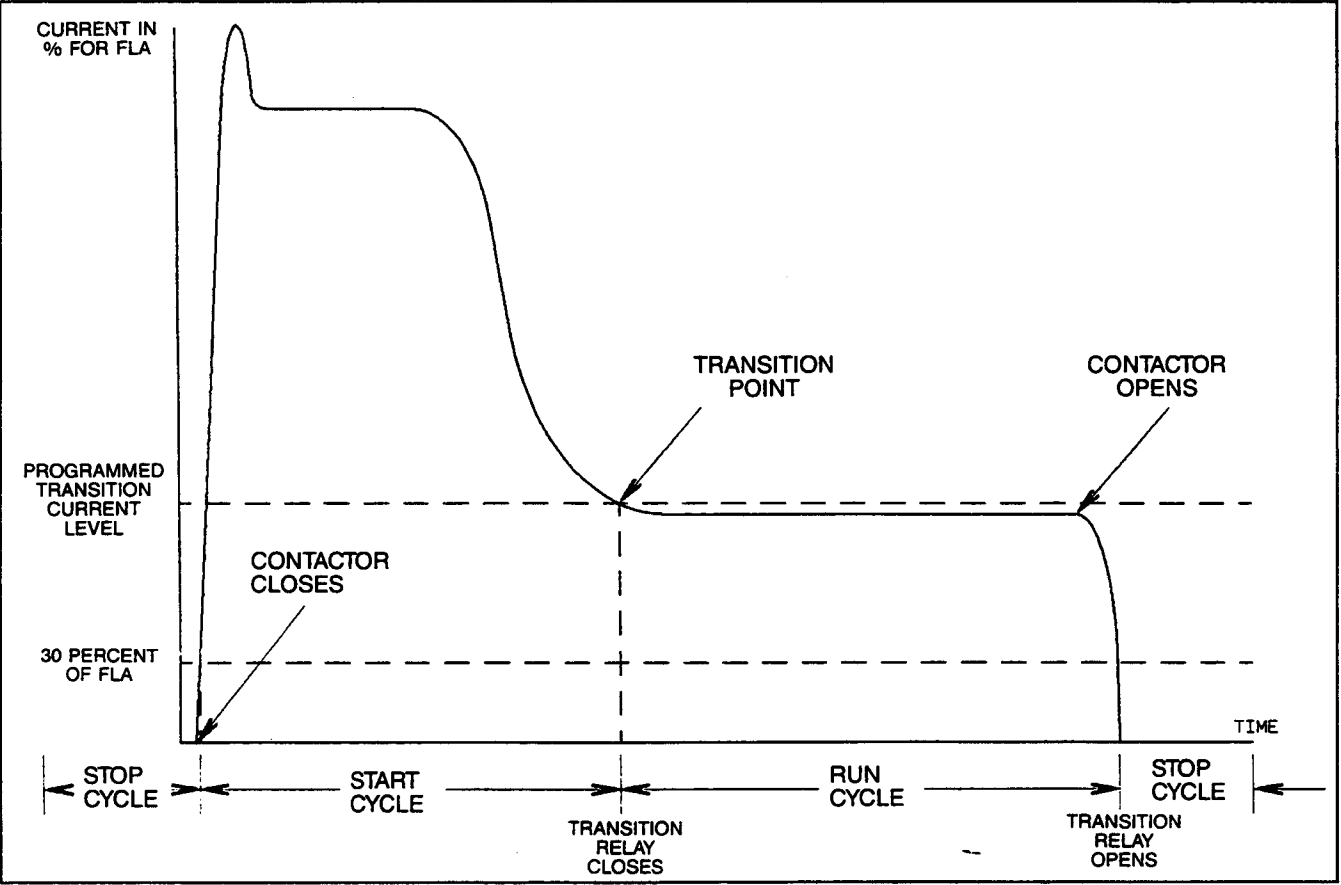

Figure 7.6 — Motor Start and Run Cycles
7.2.1 Start Cycle — The relationship between the IQ-1000 and the motor current level during a start cycle is shown in Figure 7.6, which is to be studied as these explanations are read.
7.2.2 Run Cycle — Once the transition occurs, the motor's run cycle is initiated and the message "RUN" is displayed. The run cycle continues until the monitored motor current level falls below 5% of its full-load amperes set point (item 33) at which point a stop is declared and the IQ-1000 returns to the "READY" or stop mode. (See Figure 7.6.)